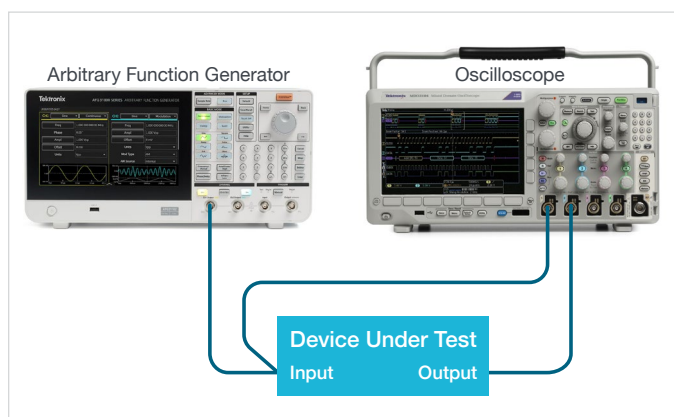

Figure 1. Frequency response testing connection diagram
1. Connect the arbitrary function generator and oscilloscope to the circuit board as shown in **Figure 1**.